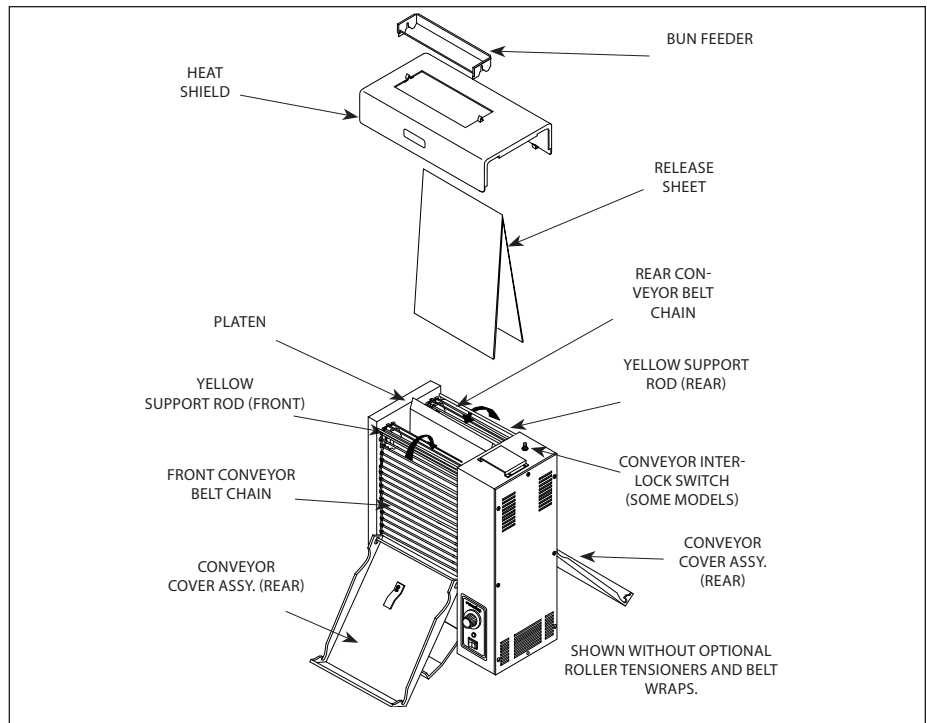
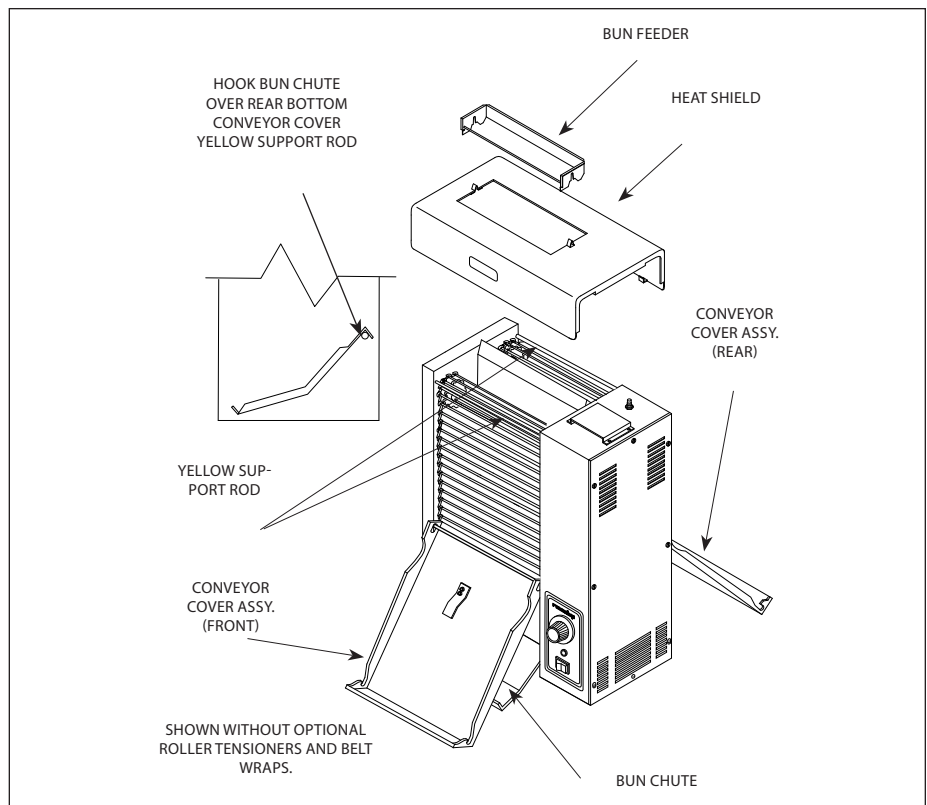

Figure 1. Toaster and Accessories
Figure 2. Installing Bun Chute
- Bun Feeder (Figure 1)
- Bun Chute (Figure 2)
- Two Release Sheets (Figure 1)
**NOTE:** The factory has pre-installed a Release Sheet over the Platen (Figure 1). Verify that it is properly in place before proceeding.
1. Install the Bun Feeder (Figure 1) and Bun Chute (Figure 2).
2. Put on heat resistant gloves. Remove the Bun Feeder, Heat Shield, and Bun Chute (Figure 1).
2. Remove the Bun Feeder, Butter Wheel, Pan, and Heat Shield (Figure 1) and set the Bun Thickness Compression Knobs to 6 & 6 or 6 & F.